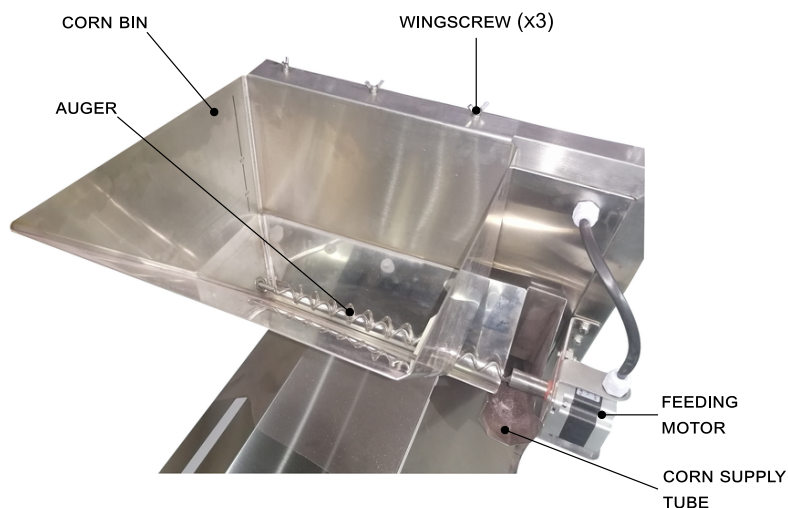

Figure 2: Corn bin with feeder
Popcorn kernels is loaded in the **corn bin with feeder**, see Fig. 2.
- Hot air comes out from the corn supply tube (see Fig. 2) during machine operation. **KEEP OFF** this area.